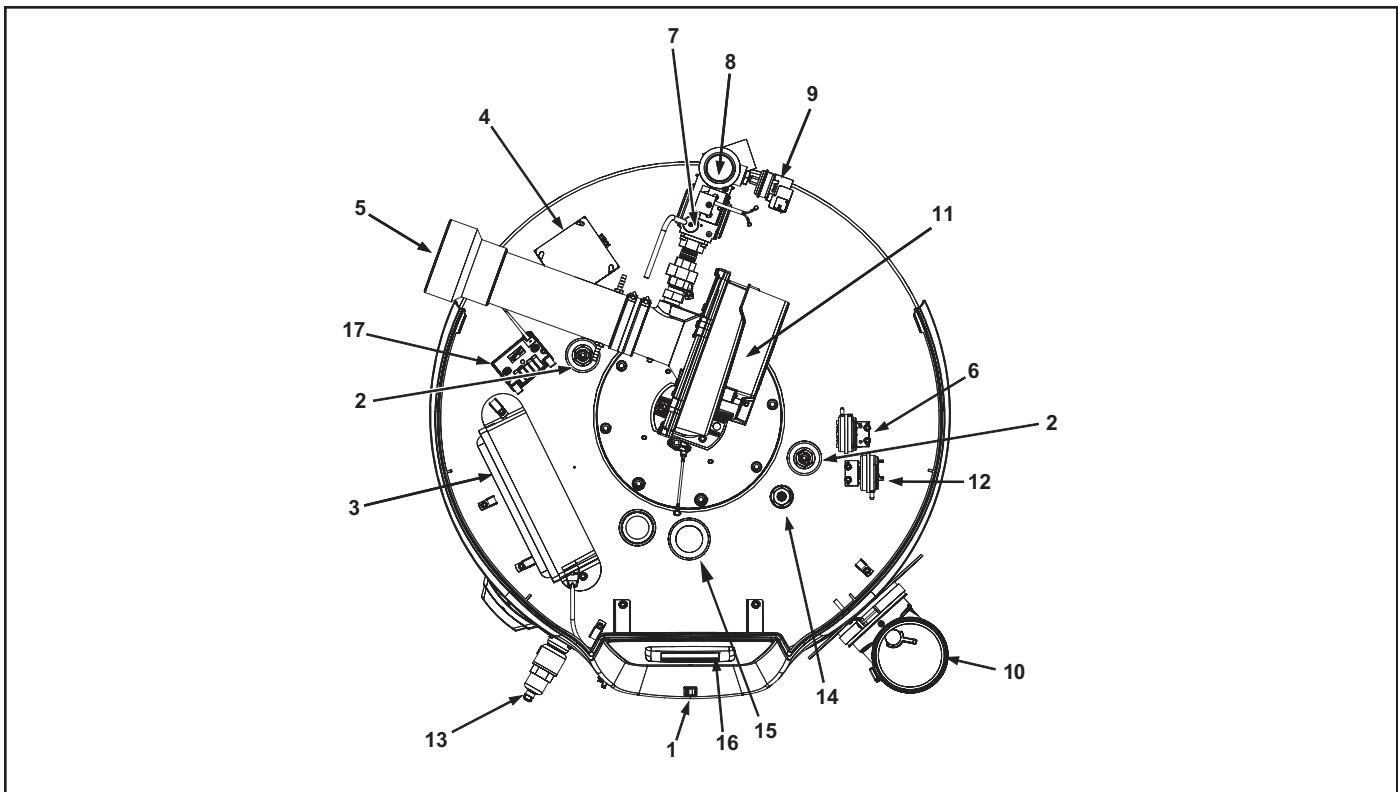

Figure 3
2. CCB enclosure - see Figure 3 on page 8 for description.
6. Low Gas Pressure switch, see description under Figure 3 on page 8. See Table 4 and the Gas Pressure Requirements on page 10.